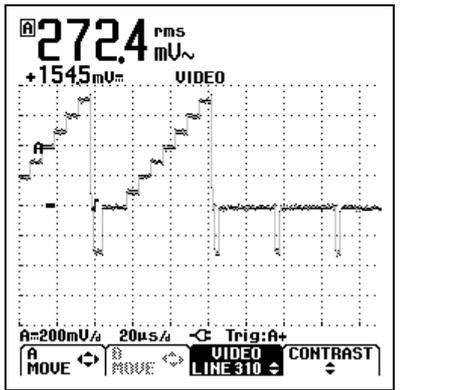

Figure 4-11. Test Tool Screen for PAL/SECAM line 310
- line number 310 for PAL or SECAM, see Figure 4-11.